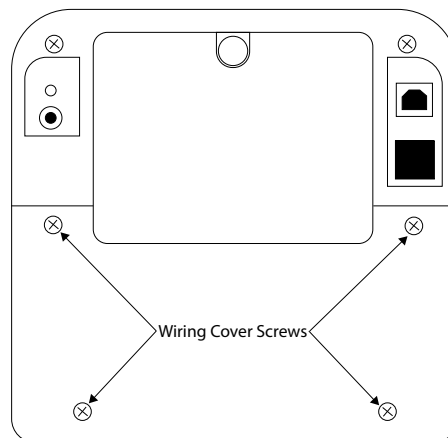

Figure 12. Wiring Cover Screw Locations
14. Reattach the indicator wiring cover (see Figure 12).